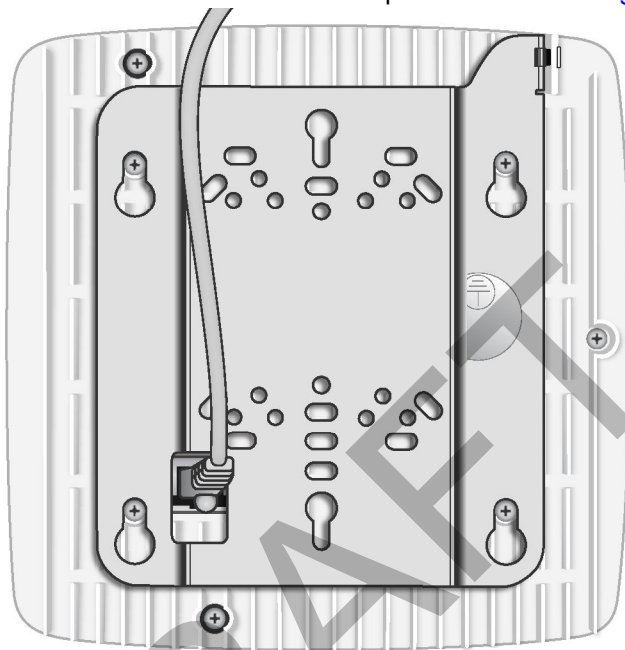

Figure 12 Route and Terminate the Cable
Step 4 Insert the RJ-45 connector into the Ethernet port as shown in Figure 12: